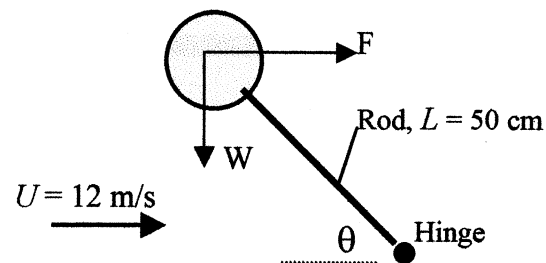

Fig. P7.112
**7.112** A smooth wooden sphere (SG = 0.65) is connected by a thin rigid rod to a hinge in a wind tunnel, as in Fig. P7.112. Air at 20°C and 1 atm flows and levitates the sphere. (a) Plot the angle  $\theta$  versus sphere diameter  $d$  in the range  $1 \text{ cm} \leq d \leq 15 \text{ cm}$ . (b) Comment on the feasibility of this configuration. Neglect rod drag and weight.